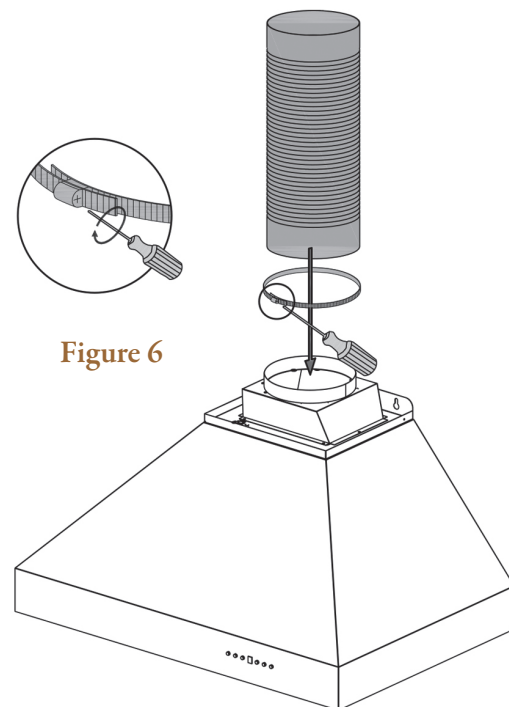

Figure 6
- 7 Connect the ducting to the transition piece using ring to hold into place. (Figure 6)
- 7 Connect the ducting to the transition piece using ring to hold into place. Attach ducting to the range hood. (Figure 6)